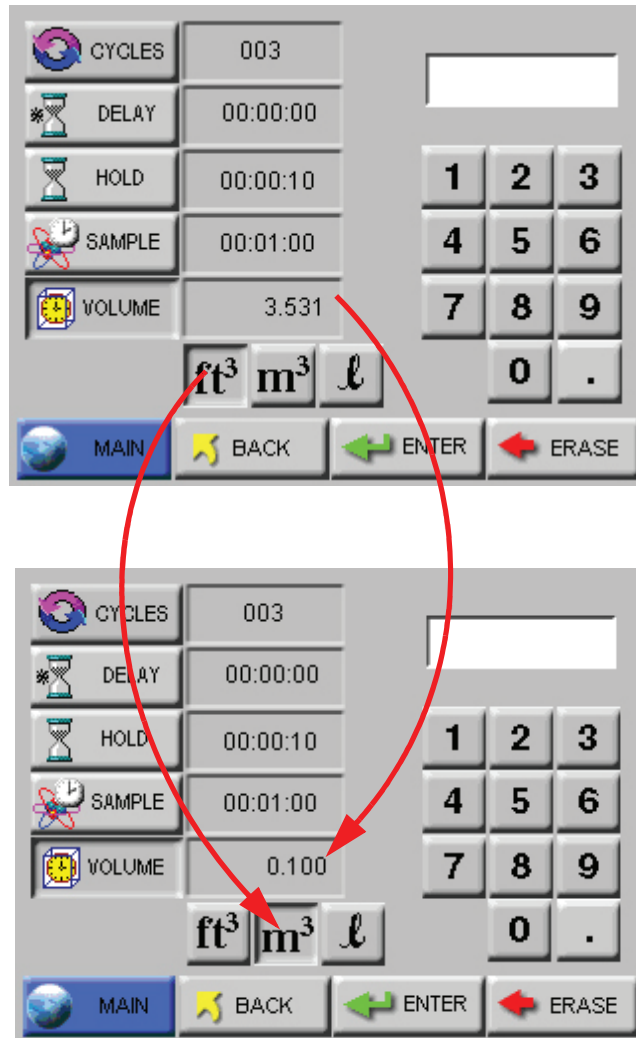

Figure 4-25 Changing Sample Volume unit of measure
- **SAMPLE VOLUME:** Instead of selecting a specific Sample Time, the instrument can be set to measure a specific Sample Volume in cubic feet (ft³), cubic meters (m³) or liters (l). When this is set, the corresponding Sample Time will automatically be set. See Figure 4-25.